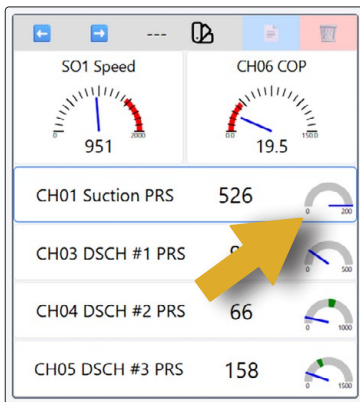

Figure 34
- Click to select the element you want to edit. In the example in *Figure 34*, Channel 1, which is set to a radial gauge, is selected.